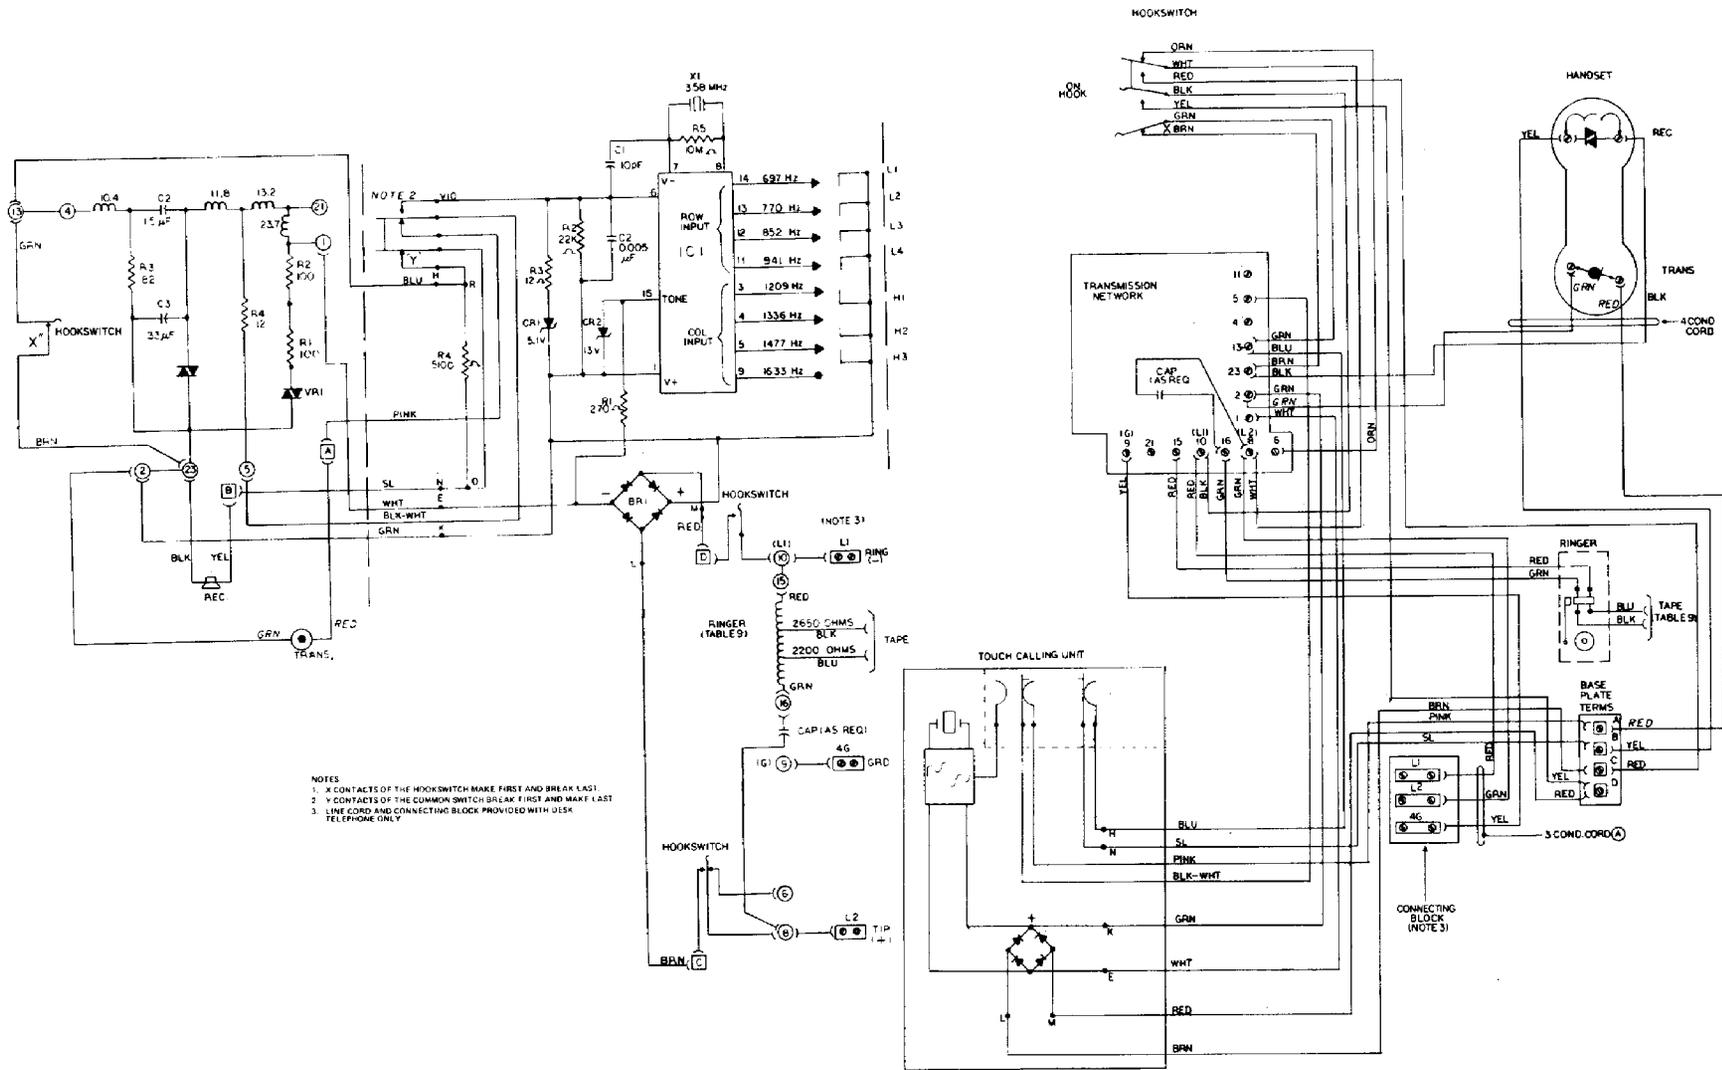

Figure 9. Schematic Wiring Diagram of the Type 182A and 192A Telephones Equipped with an Integrated Circuit TCU.
- (e) Connect the ICTCU leads as shown in Figure 9 and Table 6.